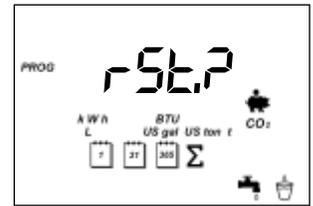

Fig. 32
- c. As all installation parameters have previously been set, press  to accept and proceed through each setting until “rst?” appears with icons for the accumulated data: day, month, year, etc. (Fig. 32). (this screen is located after the Min and Max values reset screen)
- b. Press  again and Fig. 32 is displayed (with only one of **AM** and **PM**).